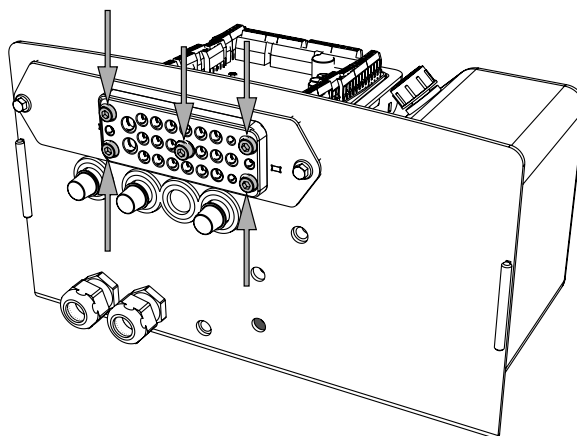

Figure 37. The cable grommet's five screws
1. Loosen the five screws on the cable grommet, see Figure 37. Cables can now be installed/removed/adjusted in the grommet. The cable should be installed together with existing cabling using cable ties.
1. When all cables are suitably located in the cable grommet, tighten the five screws; see Figure 37.